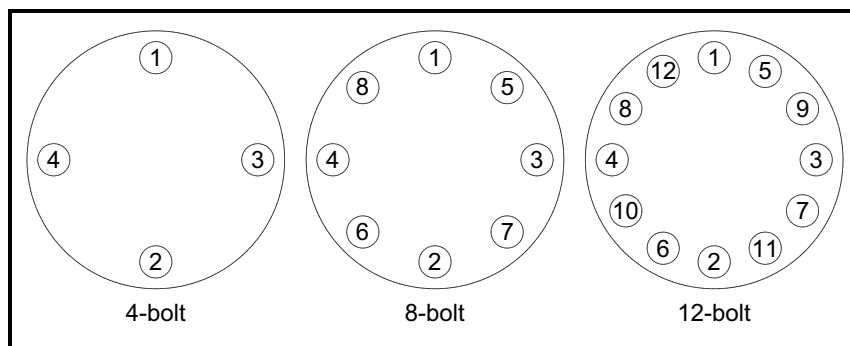

Figure 9: Flange Bolt Torquing Sequence
The required bolt load for sealing the gasket joint is affected by several application-dependent factors. Therefore the required torque for each application may be different. Refer to the ASME Pressure Vessel Code guidelines for bolt tightening standards and refer to *Figure 9* below for the proper bolt tightening sequence.
4. Place the remaining studs between the pipe flanges. Tighten the nuts in the sequence shown in *Figure 9 on page 13*. Check for leaks after tightening the flange bolts.
3. Install bolts in both process connections. Tighten the nuts in the sequence shown in *Figure 9 on page 13*. Check for leaks after tightening the flange bolts.